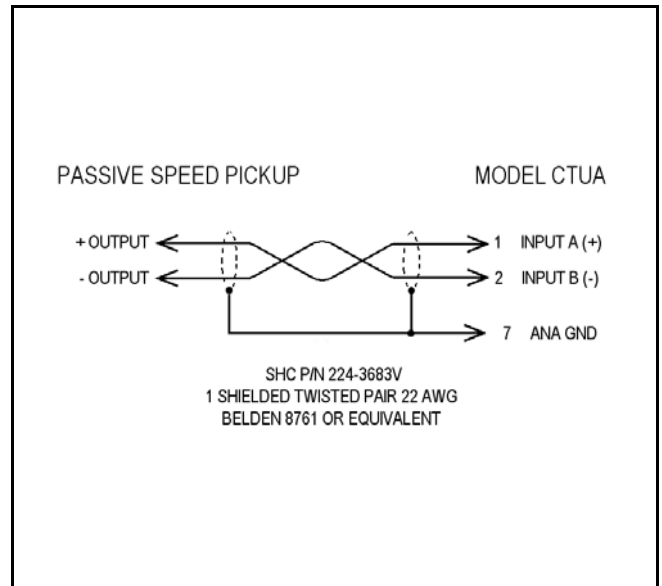

Figure 7. Code A Passive Speed Pickup Cable
**Cable Diagram for Himmelstein Speed Signal Conditioners** - Figure 7 shows connections for Himmelstein Models CTUA, 702, 722, 721, 723, 723-B, 726, 728 and other compatible Series 700 Instruments. When using another readout, substitute its plug designations for those shown.